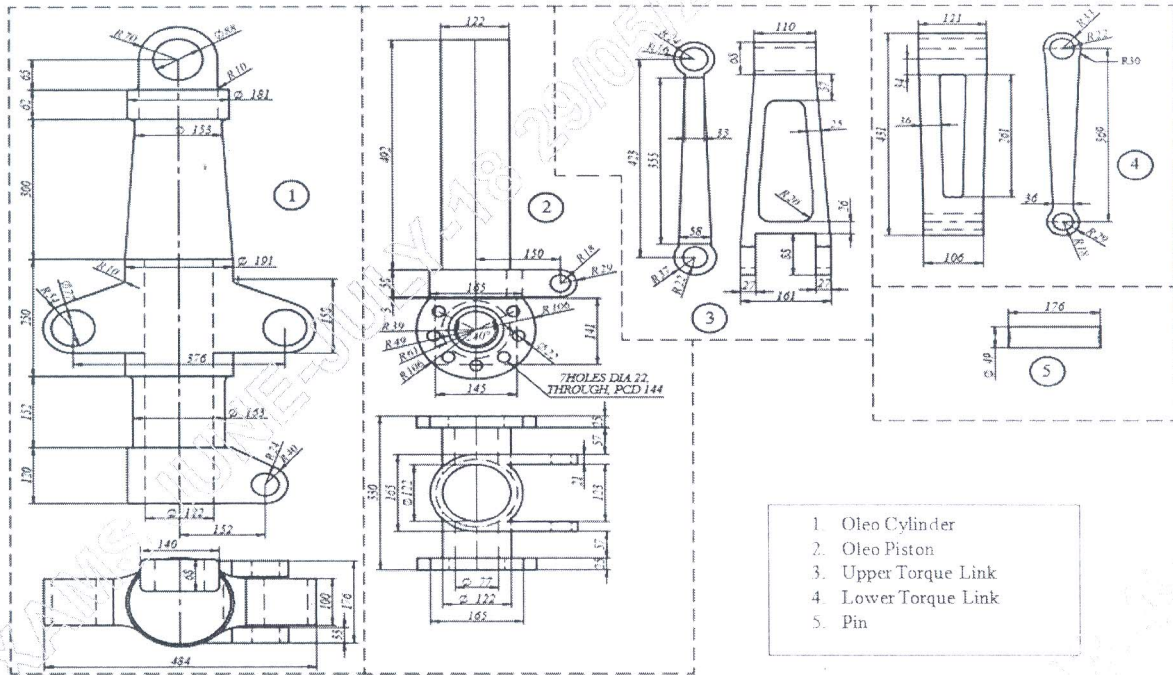

Fig. 2
6. The details of a DESIGN OF LANDING GEAR ASSEMBLY are shown in Fig. 2. Draw the following views of the assembly.